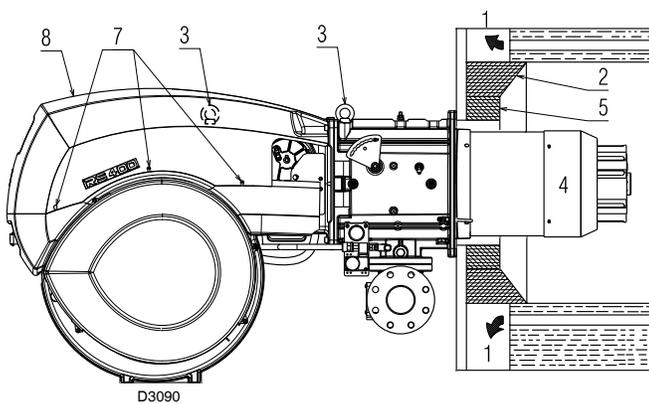

Fig. 13
For boilers having a water-cooled front the refractory fettling 2)-5)(Fig. 13) is not required unless it is expressly requested by the boiler manufacturer.
- Create a suitable hoisting system by hooking onto the rings 3)(Fig. 13), removing the fastening screws 7) securing the cover 8) first.
- Slip the thermal protection onto the blast tube 4) (Fig. 13).